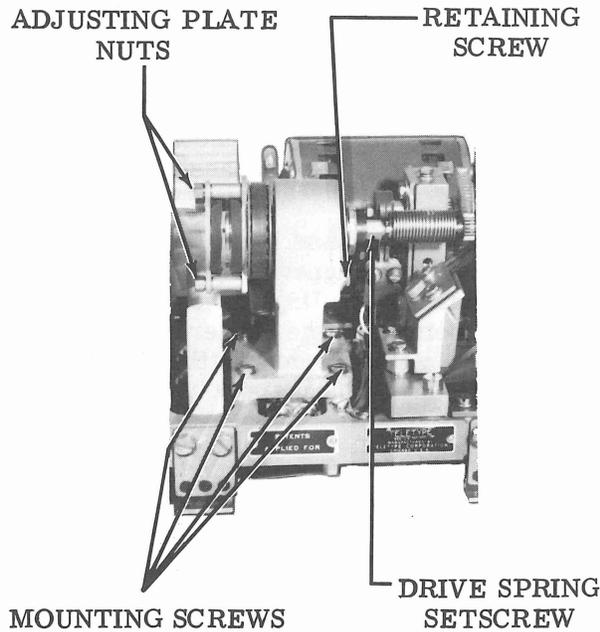

Figure 7 - Hysteresis Clutch Assembly
**HYSTERESIS CLUTCH ASSEMBLY (Figure 7)**